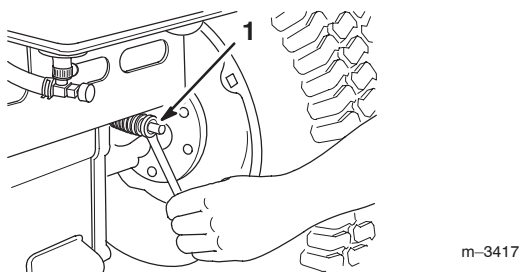

Figure 39
3. Turn the brake adjustment nut at the rear of the tractor (Fig. 39) until there is 2 in. (51 mm) of free travel.